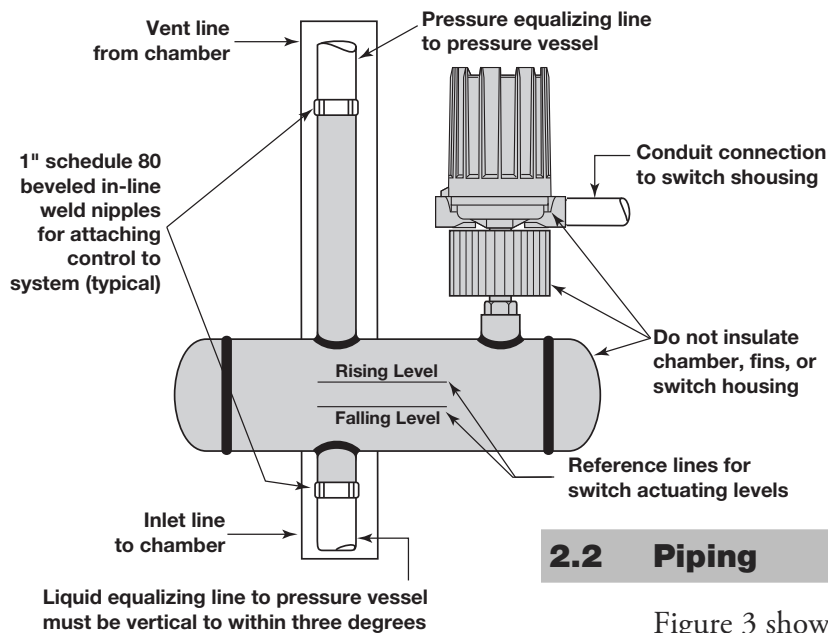

Figure 3
Figure 3 shows a typical piping installation of a Model B40 in a pipeline to a pressure vessel. Reference lines, on float chamber, should be aligned to correspond with liquid level in the vessel at which switch control is desired (refer to dimensional drawing, if furnished). Use pipe of sufficient strength to support the unit. If necessary, provide a stand or hanger to help support its weight. All piping should be straight and free of low spots or pockets so that the lower liquid line will drain towards the vessel and the upper vapor line will drain towards the control. Pipeline should be insulated, as shown, to minimize loss of liquid temperature and further control of the heat in the area of the switch housing. **DO NOT** insulate switch housing.
6. If switch magnet assembly swings freely and mechanism still fails to actuate, check installation of control to be certain it is within the specified three degrees of vertical. (Use spirit level on side of enclosing tube in two places, 90° apart.) Refer to Figure 3 on page 5.